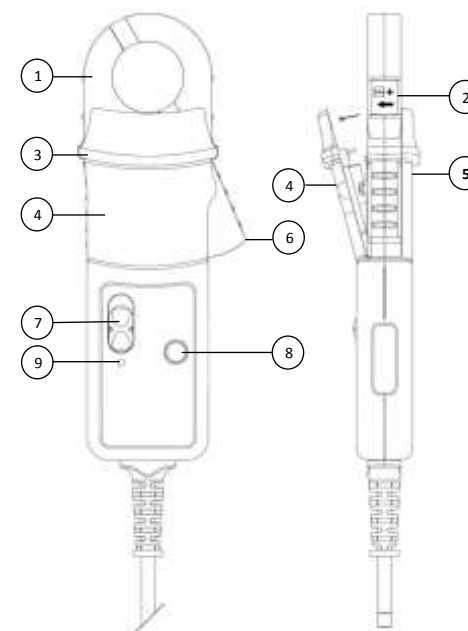

Fig 1
- Do not hold the probe anywhere beyond the tactile barrier: see Fig. 1.
The green or red LED will flash when the minimum operating voltage is approached. Refer to Fig 1. Use the following procedure: